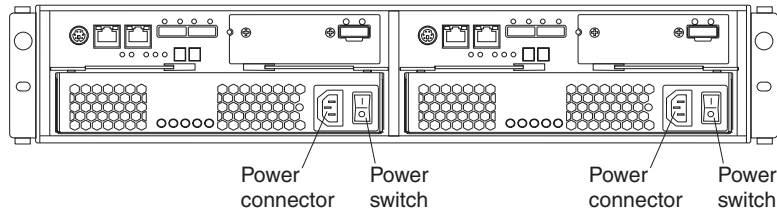
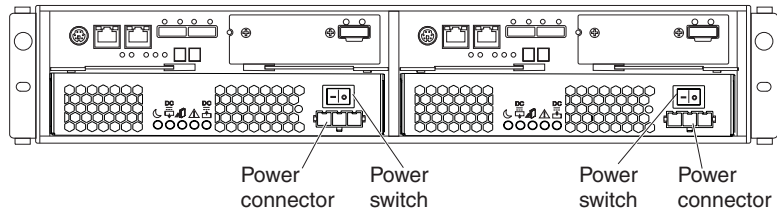

Figure 75. Power-supply switches and connectors for DS3500 ac models
Figure 76. Power-supply switches and connectors for DS3500 dc models
6. Turn on both power switches on the rear of the storage subsystem. Figure 75 on page 84 shows the locations of the ac power switches. Figure 76 on page 84 shows the locations of the dc power switches.